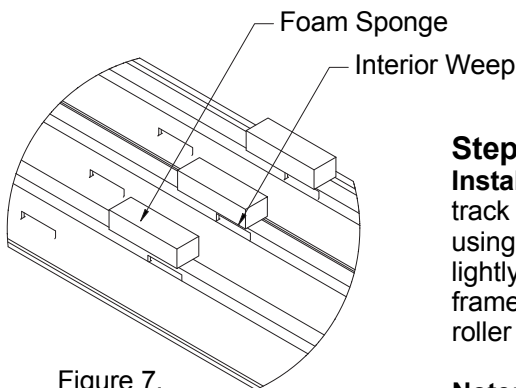

Figure 7.
**Step 10. (Foam Sponge Installation)** Compress and insert the reticulated foam sponge provided in the frame hardware pack. Placement of the sponge should fully cover the interior weep of the frame sill. Complete this process at each weep location for all roller track cavities (See Figure 7).